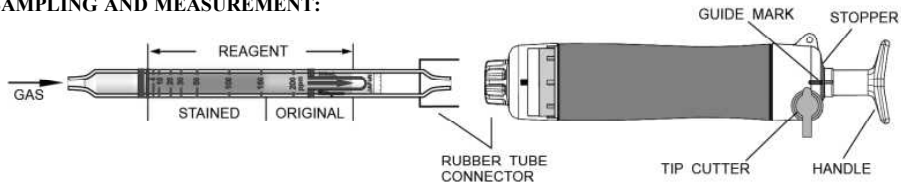

Fig.1
- ② Insert the detector tube into the aspirating pump securely as shown in Fig.1. (Arrow mark shall point to the pump.)
- ③ Align the guide marks on the shaft and stopper of the aspirating pump.
- ④ Pull the pump handle at a full stroke until it locks and wait for 2 minutes or until the completion of sampling is confirmed with the flow indicator of the pump. (See descriptions about the flow indicator in the instruction manual of the pump.)
- ⑤ Push back the handle without removing the detector tube from the rubber tube connector so that air in the pump will be discharged perfectly. Then repeat the step ③ ~ ④ twice more.
- ⑥ On completion of sampling, read the scale at the maximum point of the stained layer.
- ⑦ When the concentration is over the scale range, 1 pump stroke can be used to determine concentrations of 20 - 800 ppm.